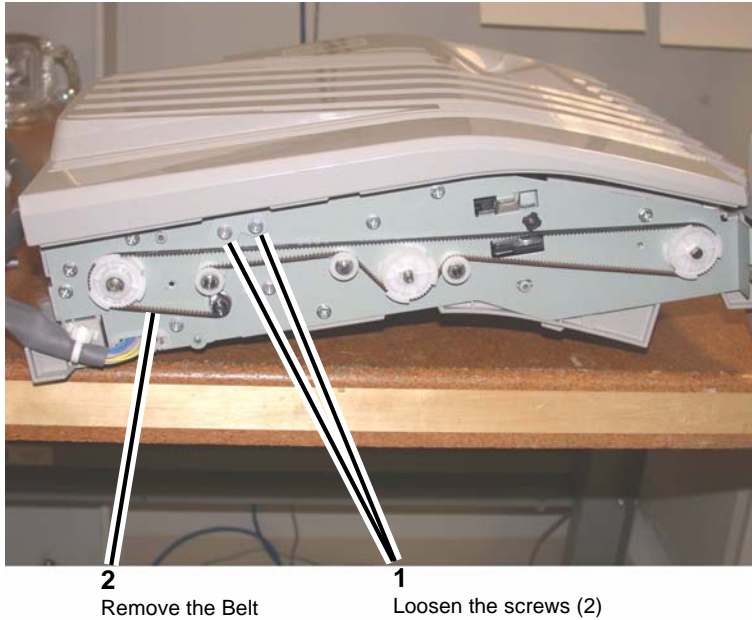

Figure 1 Removing the H-Transport Belt
4. Remove the screws (2) on the H-Transport Rear Cover and remove the Cover.
5. Loosen the screws (2) on the Tension Bracket (Figure 1).